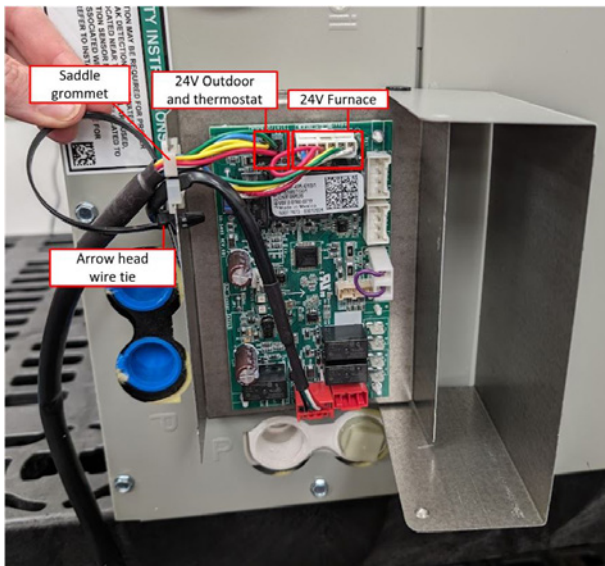

Figure 5: 24VAC harness connection to MCB
- **24VAC only:** Connect the white (furnace) connector and the black (Thermostat and OD) connector to the MCB as shown in Figure 5.